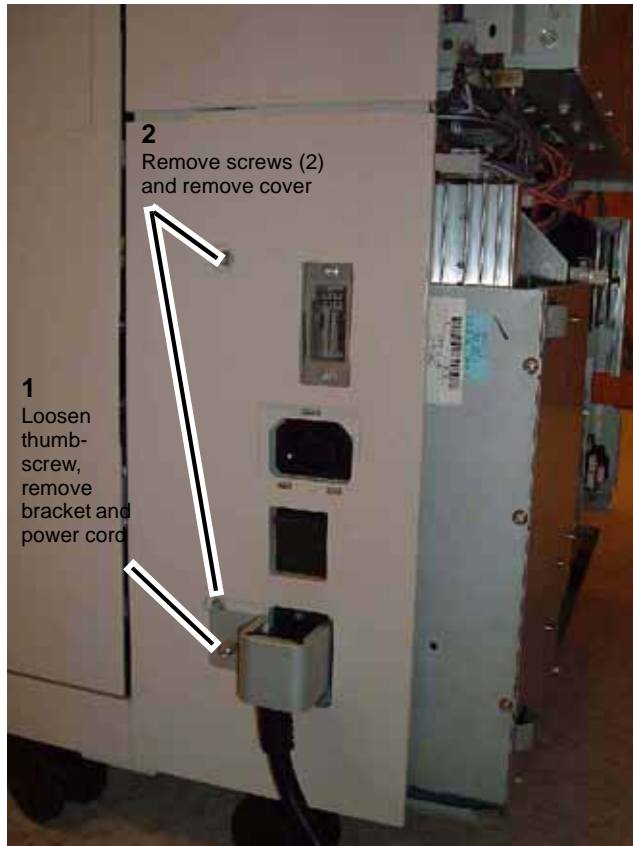

Figure 1 Removing the Right Rear Lower Cover
4. Remove the Right Rear Lower Cover (Figure 1).